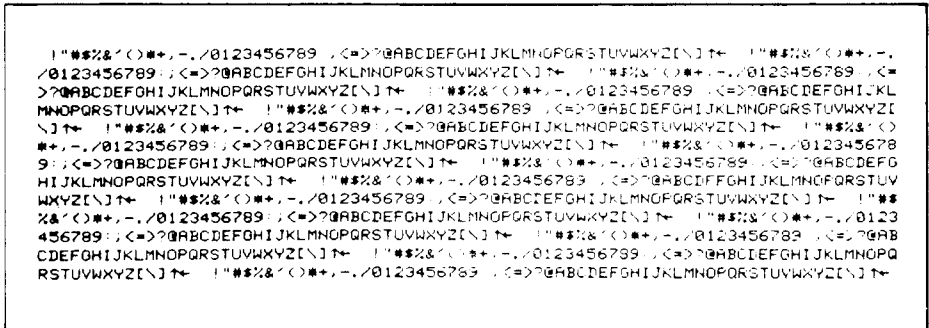

Figure 1-38. Print Head Test
2. Turn printer power back *on while pressing the paper feed button* (lower left front corner). The printer should rapidly print out a repeating sequence of all special symbols, numbers and letters available (no graphics). An example of the test is shown in Figure 1-38.